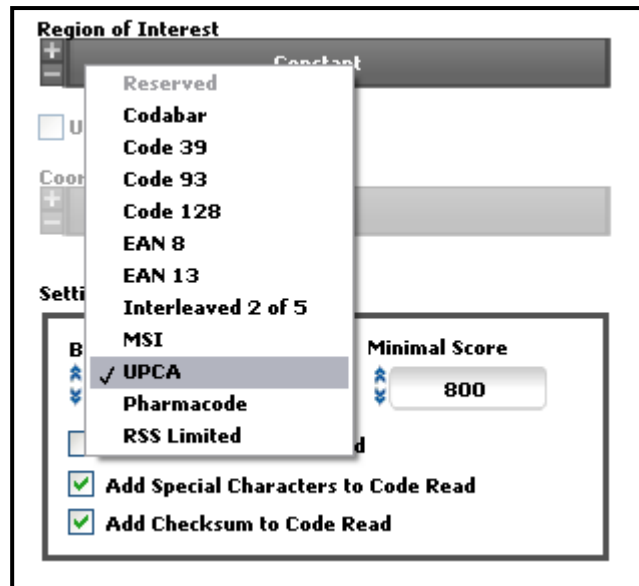

Figure 58. Define barcode type.
4. Select the Barcode Type [Figure 58].